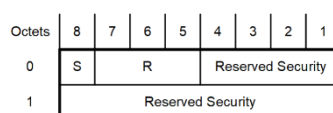

Figure 1. Reserved 1 section
During testing of systems in real operation, simulated and process signals will be present simultaneously in the network. Process signals will be recognized by the protection devices, as per the Reserved 1= 0x0000 (0) (see Figure 1.)